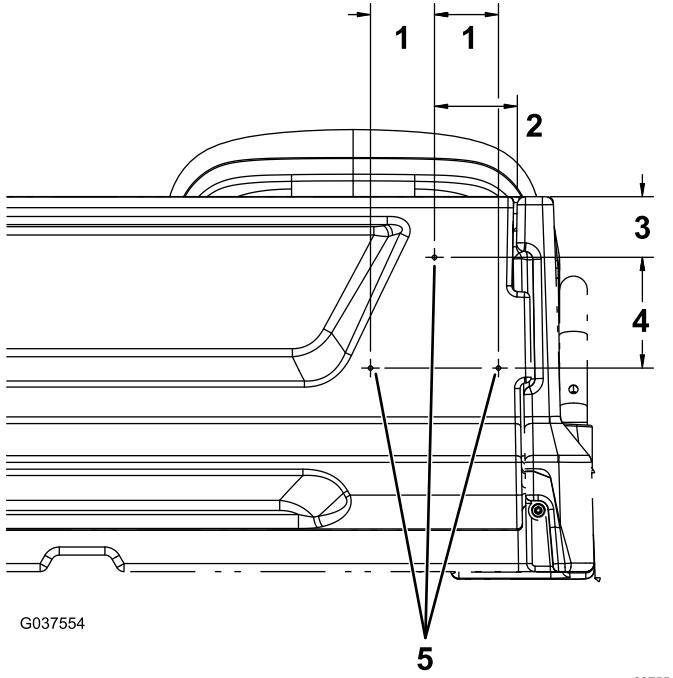

Figure 13
2. Measure 128 mm (5 inches) down from the hole marked in step 1 and 74 mm (2-7/8 inches) to the right and left and mark the 2 locations (Figure 13).
3. Drill a 5 mm (13/64 inch) hole at each of the 3 marked locations (Figure 13).
1. On the right side of the tailgate, measure 95 mm (3-3/4 inches) from the right edge of the tailgate and 70 mm (2-3/4 inches) from the top of the tailgate, and mark this location (Figure 13).